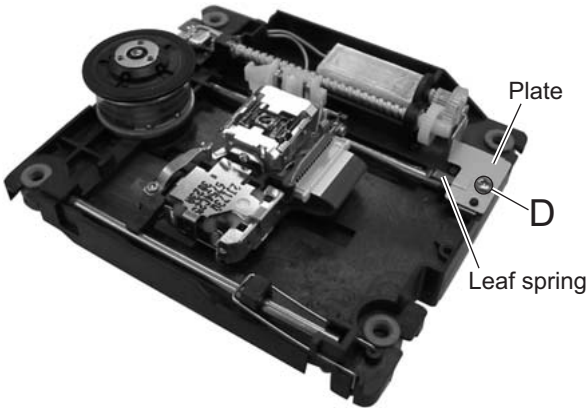
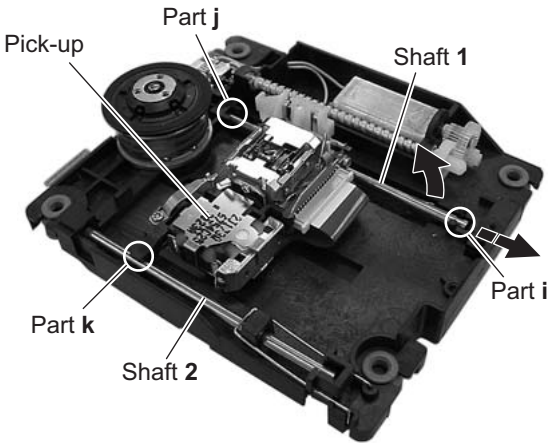
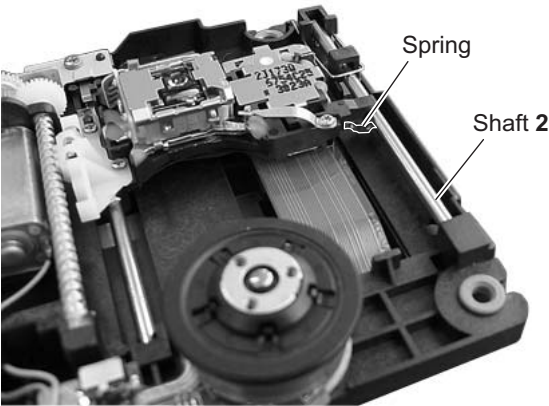

Fig.12
Fig.13
Fig.14
2.3.1 Removing the pickup (See Figure 12, Figure 13, and Figure 14)
- As Figure 14 shows, the spring must come under the shaft **2**.
- (2) Insert the shaft **1** in **j**, and attach the shaft **1** to **i**.
- (3) Attach the leaf spring, and then attach the plate. Fix the leaf spring and the plate by using the screw **D**.